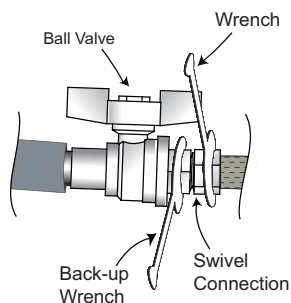

Fig. 25 — 42SUA Unit Riser to Unit Installation (Tighten Swivel Connections)
- Use a wrench to tighten the swivel connections. Use a backup wrench to hold the riser ball valve stationary to prevent it from bending or twisting during installation as shown in Fig. 25. Be careful not to over-tighten swivel connections.